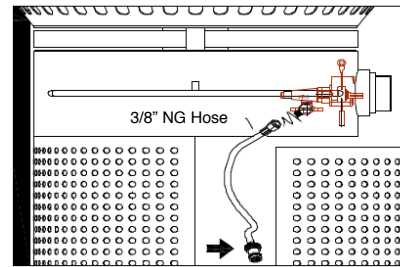

FIG. 01
- 1) Assemble as shown below (FIG. 01). Remove the front door. Use a pipe wrench to hold the grill inlet pipe to avoid shifting any internal gas lines of the grill. Remove the pre-attached LP gas hose pipe from the inlet fitting of the grill. Attach the 3/8" ID gas hose on.